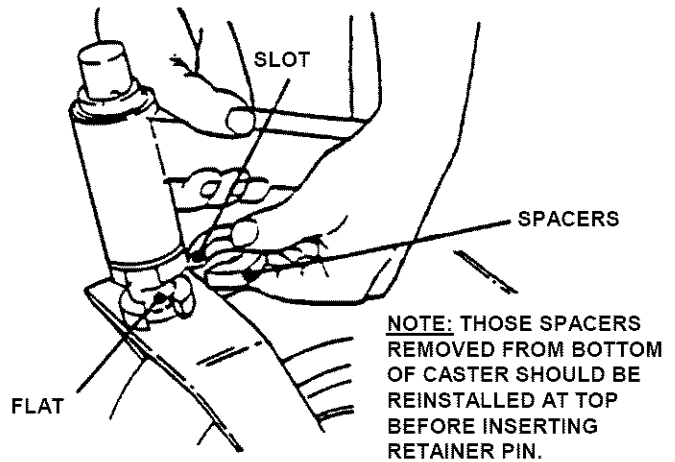

FIGURE 3.11
2. Lift Caster Support while adding or removing bottom spacer. See Figure 3.11.